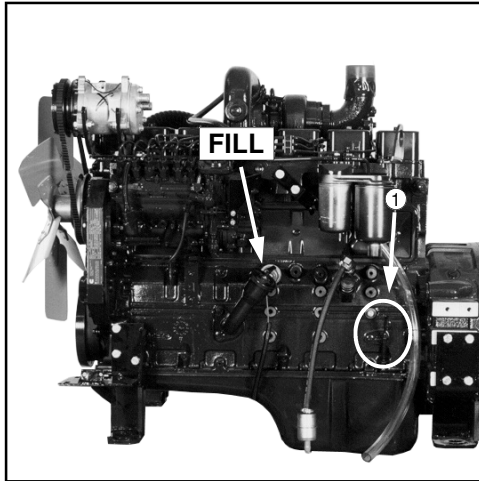

FIG 7.1
OIL LEVEL - The engine oil level dipstick is located on the left-hand side of the diesel engine (fig. 7.1, item 1). Never operate the engine with the oil level below the “L” (low) mark or above the “H” (high) mark. Wait at least five minutes after shutting off the engine to check the oil level; this allows time for the oil to drain to the oil pan. Check the engine oil level daily, change it yearly or every 500 hours.